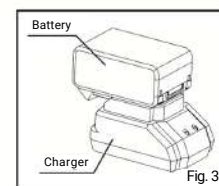

Fig. 3
- Attach the battery to the battery mounting hole of the charger. Be sure to insert the battery fully into the hole. (Fig. 3)